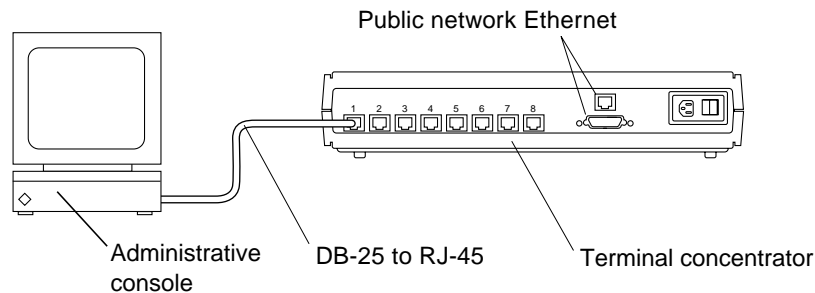

FIGURE 2-5 Connecting the Administrative Console
1. **Connect a DB-25 to RJ-45 serial cable (part number 530-2152-01 or 530-2151-01) from serial port A on the administrative console to serial port 1 on the terminal concentrator, as shown in FIGURE 2-5.**